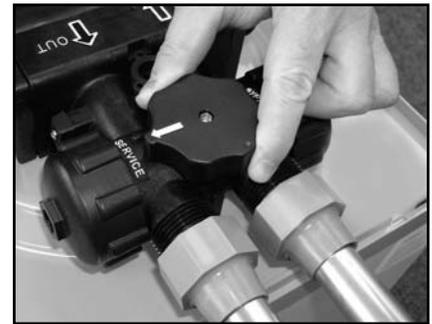

Figure 11: Service Position
6. Place the bypass in the “service” position slowly to fill the appliance. (See Figure 11 or 12.)
- B. Ensure that the bypass is left in the “service” position and the valve cover is on the appliance. (See Figure 11 or 12.)